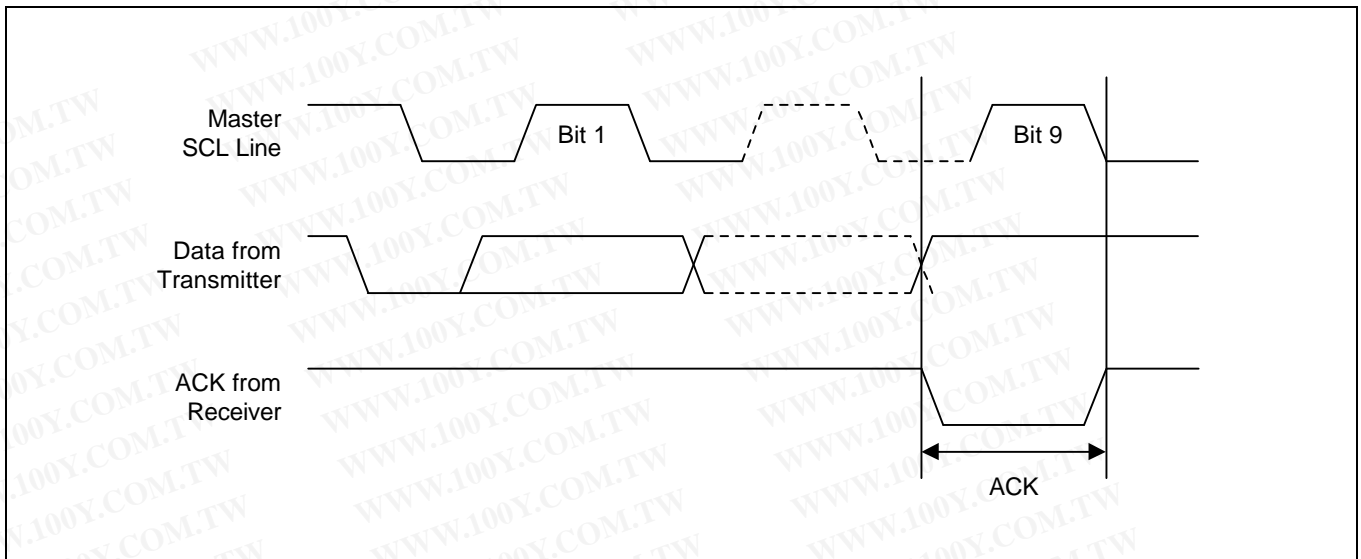

Figure 4-8. Acknowledge Response From Receiver
- **ACK (Acknowledge):** An ACK signal indicates that a data transfer is completed successfully. The transmitter (the master or the slave) releases the bus after transmitting eight bits. During the 9th clock, which the master generates, the receiver pulls the SDA line low to acknowledge that it has successfully received the eight bits of data (see Figure 4-8). But the slave does not send an ACK if an internal write cycle is still in progress.